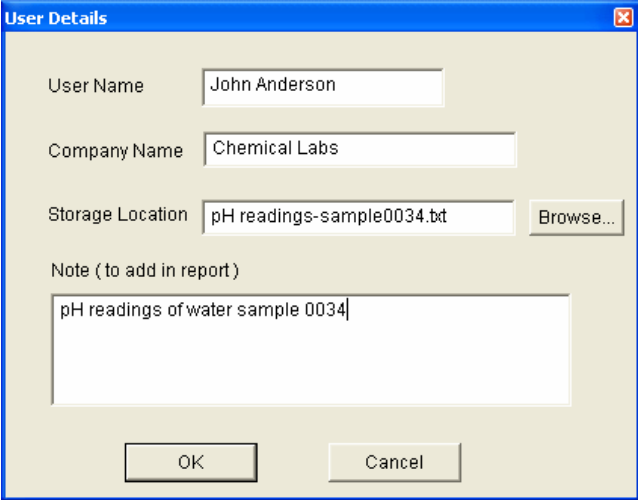

Figure 22 : User Details dialog
2. Click **Save Data** button. **User Details** dialog appears to capture user information, file name and additional notes (if any). (Figure 22)